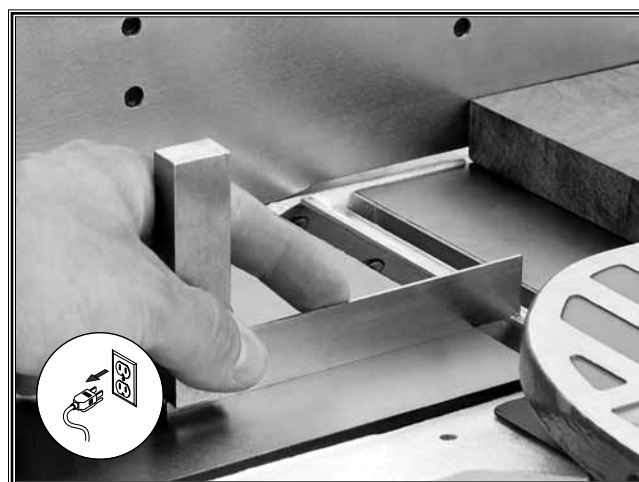

Figure 26. Checking the blade height.
5. At both ends of the cutterhead, the straightedge must just make contact with the blade (**Figure 26**). *Watch and make sure the straightedge is not lifted from the out-feed table surface when contact is made with the cutterhead blades.*